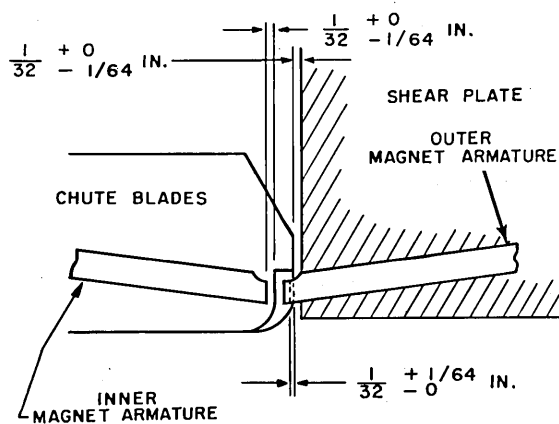

Figure 3-3. Chute Blade (Top View)
4. Adjust chute blades (use the chute blade mounting screw) for  $1/32'' \pm 1/64''$  clearance between end of lower chute blade and lower card guide plate (Figure 3-3).